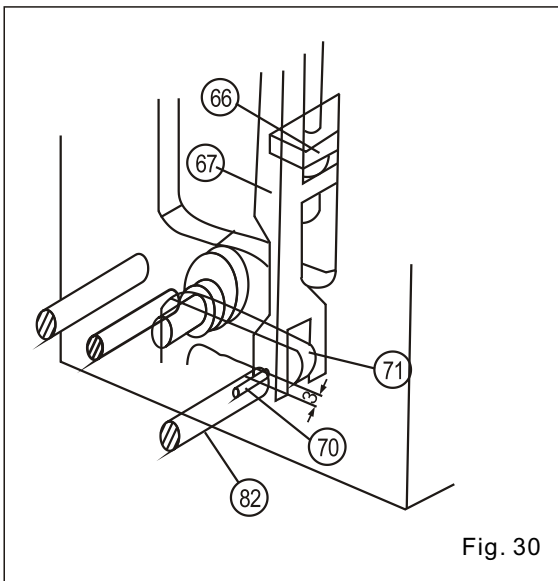

Fig. 30
(1) Take off sewer tension rod (No. 67 in Fig. 30) and the connecting bolt (No. 70 in Fig. 30) of adjusting drive rod (No. 71 in Fig. 30), as indicated in Fig. 30.